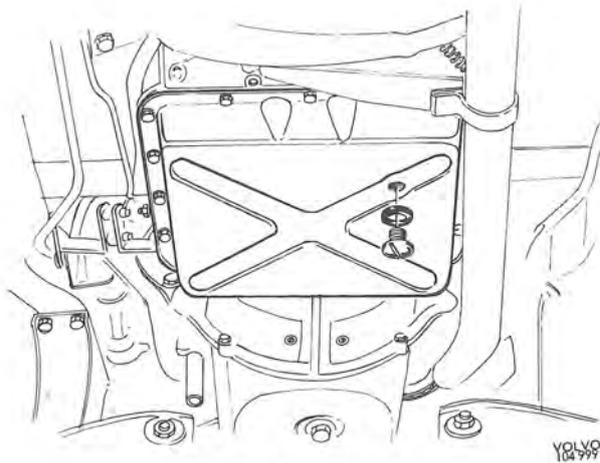

Fig. 4-75. Oil drain plug
1. Jack up and place blocks under the vehicle. Drain off the oil into a vessel which is absolutely clean. See Fig. 4-75.
2. Drain the oil into a clean container, see Fig. 4-75.